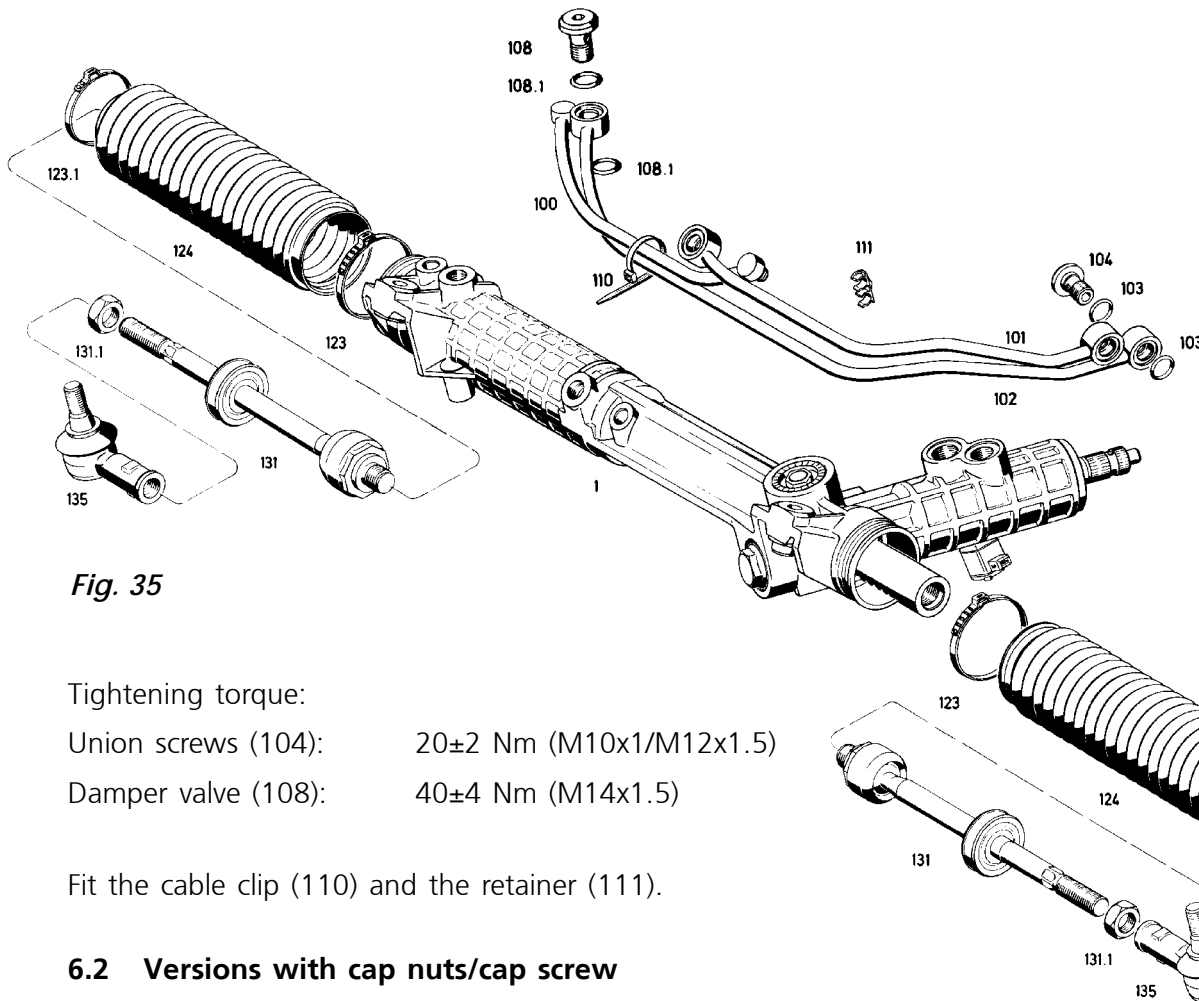

Fig. 35
6.1 Versions with union screws (104)
Fit the pipes (101 and 102) along with the O-rings (103) and the sealing washers (108.1) and the union screws (104) and the damper valves (108) (*Fig. 35*).
Slide the bellows (124) onto the tie rod (131) (*Fig. 35*).
7.3 Versions without an additional tie rod (131) securing device
7.5 Fastening the bellows (124)
Fasten the bellows (124) with the hose clips (123.1) (*Fig. 35*).